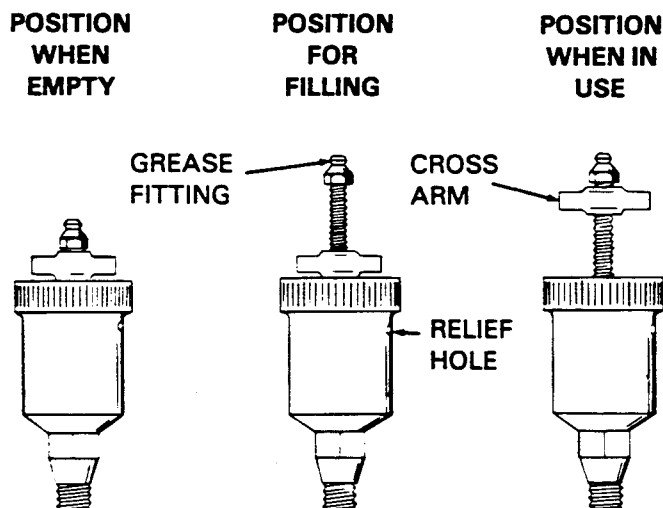

Figure 4. Automatic Lubricating Grease Cup
Fill the grease cup (20) through the grease fitting with No. 2 lithium base grease until grease escapes from the relief hole. Turn the grease cup arm counterclockwise until it is at the top of the stem; this will release the spring to apply grease to the seal (see Figure 4).